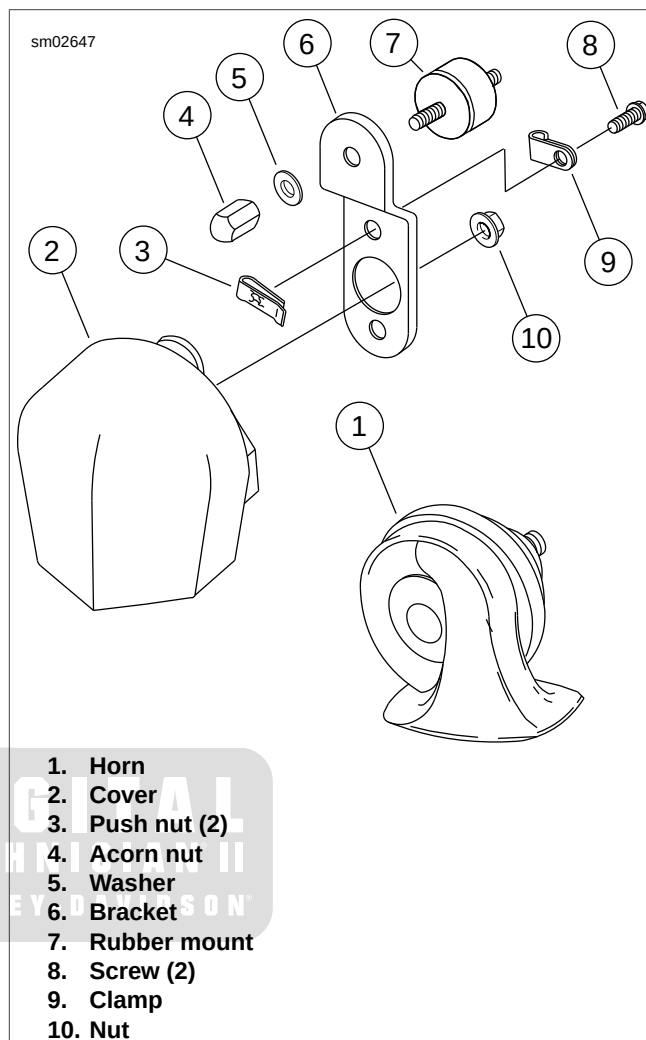
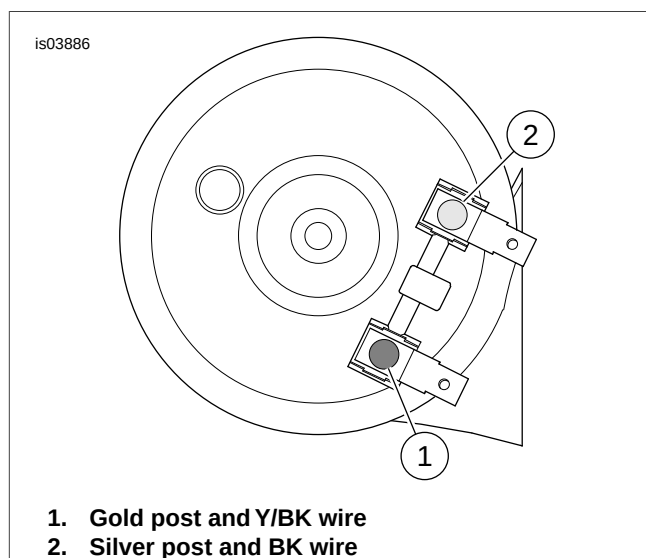

Figure 7-70. Horn
Figure 7-71. Horn Wiring
1. See Figure 7-70. Remove nut (4) and washer (5) to detach horn bracket (6) from vehicle.
2. See Figure 7-71. Disconnect wires from posts (1, 2) on back side of horn.
3. See Figure 7-70. Remove screws (8) and nut (10) to detach horn from bracket. Free wires from clamp (9).
4. Install **new** horn on bracket. Secure with screws (8), push nuts (3) and nut (10). Fold wires under clamp (9).
5. See Figure 7-71. Attach wiring.
- a. Connect Y/BK wire to gold post (1).
- b. Connect BK wire to silver post (2).
6. See Figure 7-70. Attach horn to vehicle using washer (5) and nut (4). Tighten nut to 10-15 ft-lbs (13.6-20.3 Nm). When tightening fasteners, be sure the horn does not contact the horn cover or other parts.